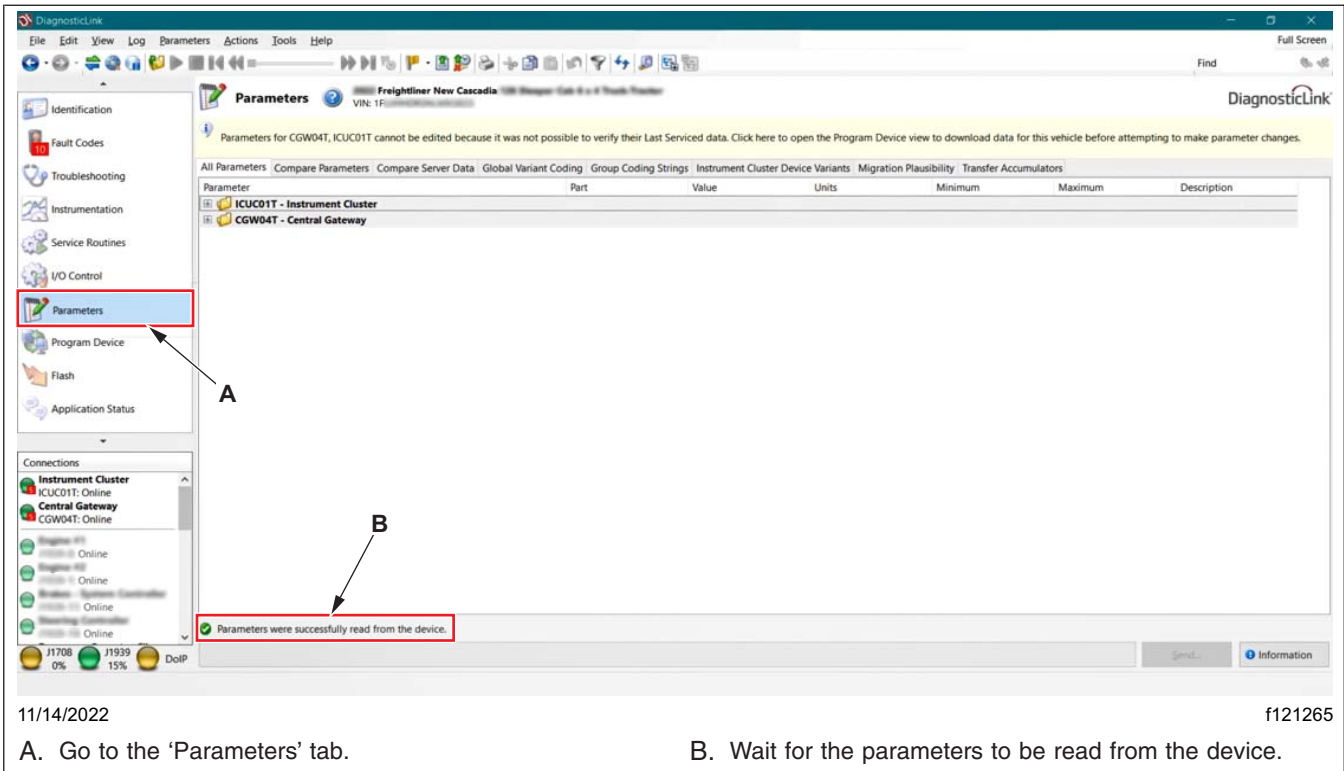

Fig. 5, Reading the ECU Parameters
10. Go to the 'Parameters' tab. See Fig. 5.
DiagnosticLink will read the parameters of the connected ECUs. Wait for the message 'Parameters were successfully read from the device' to be displayed. See Fig. 5.